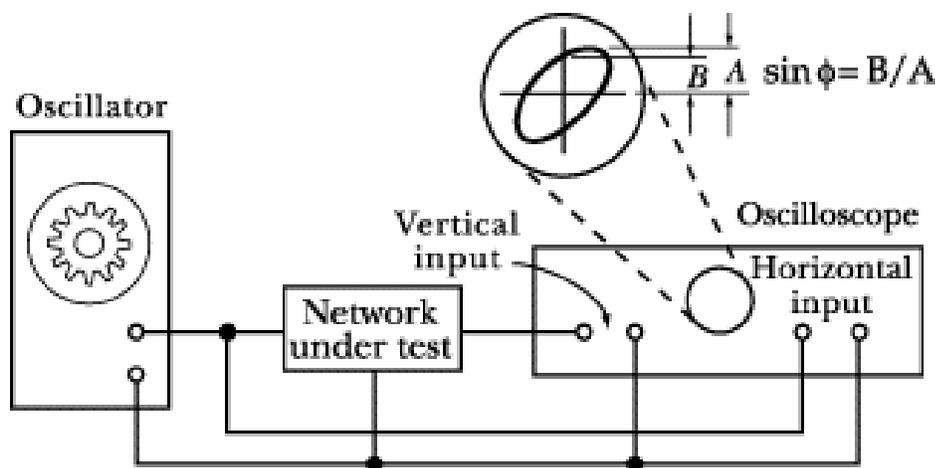

Figure D-4.
*Lissajous figures:* The Mobile Studio scope offers a convenient means of comparing signal frequencies through the use of Lissajous diagrams. Two frequencies are impressed on the scope inputs, one on the horizontal input and one on the vertical input as shown in Figure D-4.
where B and A are measured as shown in Figure D-4. If both signals have the same input frequency, the shape of the figure varies depending upon the phase difference between the two signals. For zero phase shift, the ellipse will become a straight line with a slope of 45° to the right; for 90° phase shift it will become a circle; and for the 180°